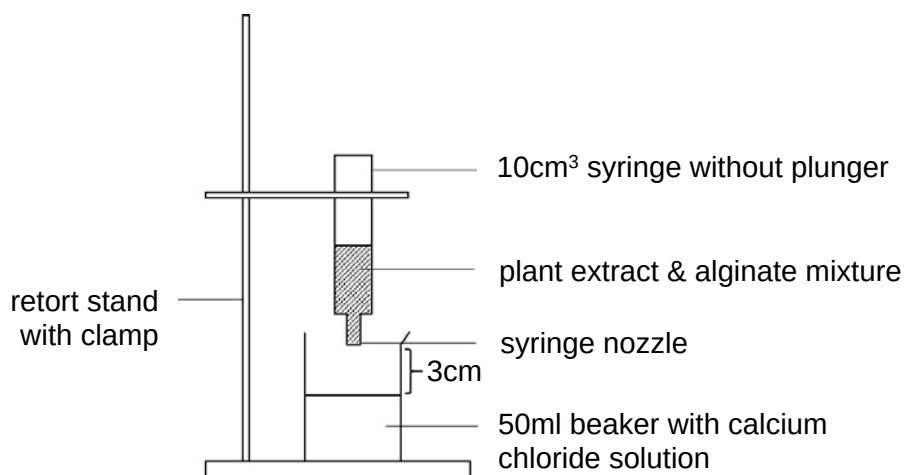

Fig. 1.1
- 5 Attach an empty 10cm³ syringe without its plunger vertically in the clamp stand, as shown in Fig. 1.1.
- 6 Pour approximately 30cm³ of calcium chloride, **C** into a 50ml beaker. Place the beaker directly underneath the syringe as shown in Fig. 1.1, ensuring a distance of around 3cm between the syringe nozzle and the surface of the calcium chloride solution.